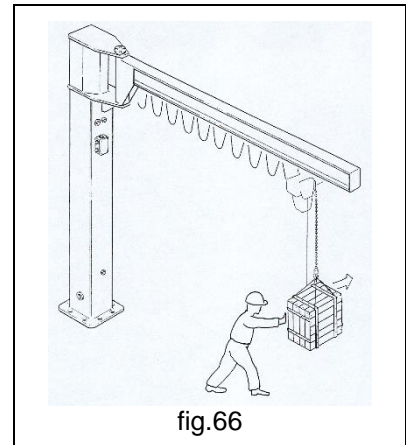

fig.66
- ALWAYS when moving manually push the load and avoid pulling it towards itself (fig. 66).